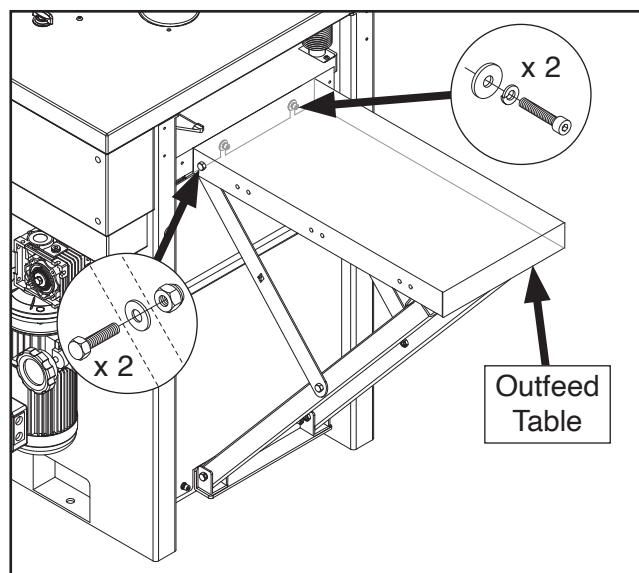

**Figure 11.** Outfeed table installed.
5. Set outfeed table on outfeed table support and have assistant hold it at end of table bed so you can secure outfeed table to table with (2) M8-1.25 x 20 cap screws, (2) 8mm lock washers, and (2) 8mm fender washers (see **Figure 11**).
6. With assistant still holding outfeed table in place, attach braces to outfeed table with (2) M10-1.5 x 25 hex bolts, (2) 11 x 25 x 3.5mm spacers, and (2) M10-1.5 lock nuts (see **Figure 11**).